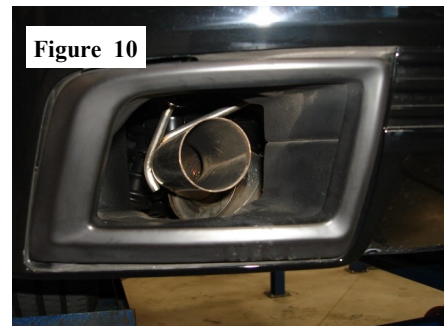

Figure 10
9. Check your exhaust system for proper clearance under the vehicle and also for tip alignment. (See Fig. 10)